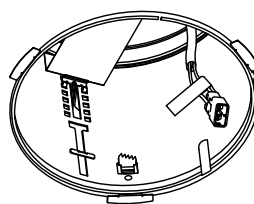

Fig. 1
3.) FOLLOW FIGURES 1 THROUGH 5 IN ORDER TO COVER SPRING TABS AND WALL CUTOUTS